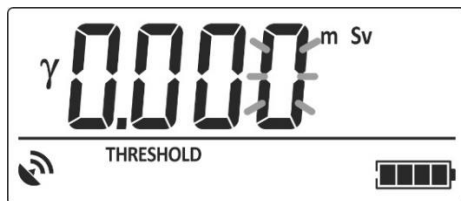

Figure 2.28 – LCD of the dosimeter
2.3.6.8.3.2 If you keep holding THRESHOLD for more than 4 s, the value of the alarm threshold level is returned to zero, and its low-order digit starts blinking (Figure 2.28). Then release THRESHOLD.